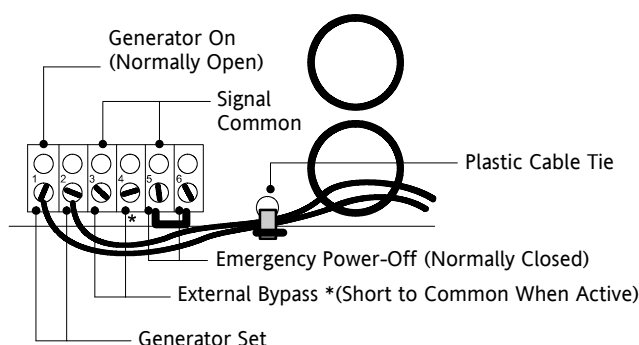

Figure 21. Input Control Signal Wiring
12. If any external hardwired control signals are required (EPO or Generator On), unscrew and remove the top rear panel of the cabinet and locate the terminal block (see Figure 21).